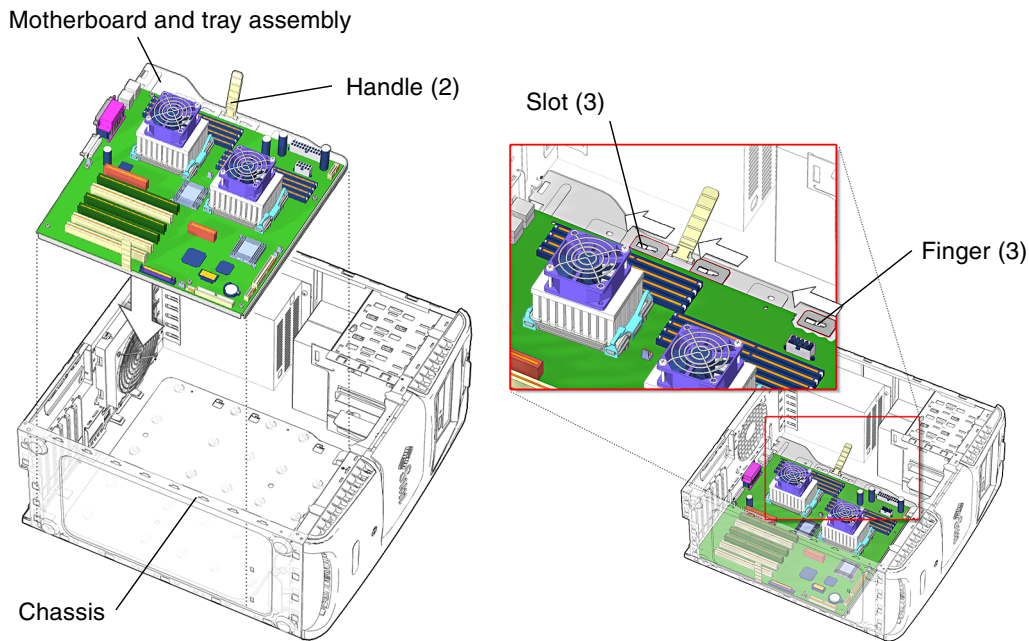

FIGURE 11-40 Inserting the Motherboard and Tray Assembly Into the Chassis
6. Insert the motherboard and tray assembly into the chassis (FIGURE 11-40).